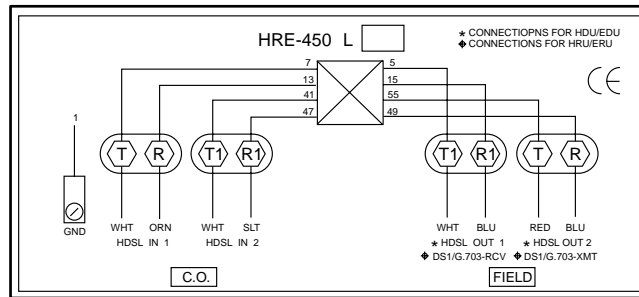

Figure 6. Figure 6. HRE-450 List 4A Wiring Diagram
Connect the HRE-450 List 4A to the Signal Cables and Ground Wire as follows (see Figure 6 for a wiring overview):
- 11 Insert the first pair's Ring wire into the right Wire-Entry hole on the left QFCM, until the wires touch the ends of the transparent plastic caps. (See Figure 6 on page 9 for a complete wiring diagram).